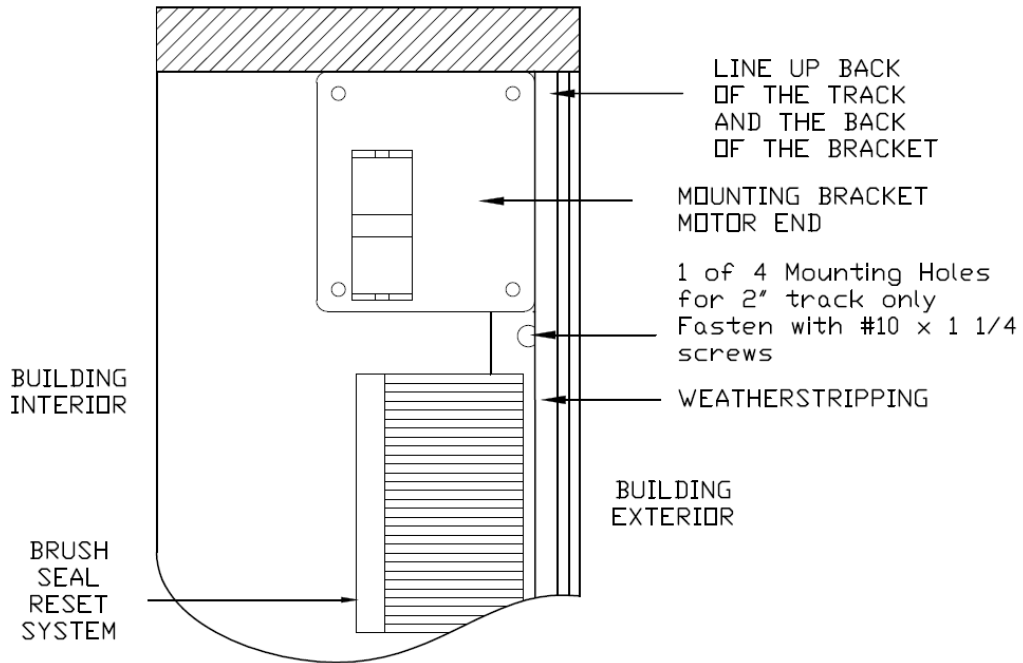

FIGURE 3
STEP 5. Position the left side guide track on the door jamb so the back of the guide track is up against the back of the mounting bracket as shown in **Figure 3**. Make sure the track is plumb. Drill pilot holes into the doorjamb through all four holes in the guide tracks with a #22 bit (or 5/32"). (Use the 2 x 2 1/8 shim plate provided as shims behind the mounting points as needed). Use the appropriate fasteners based on the jamb type to fasten the tracks to the jamb (not provided).